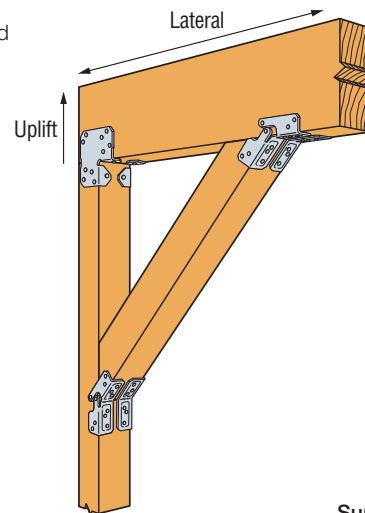
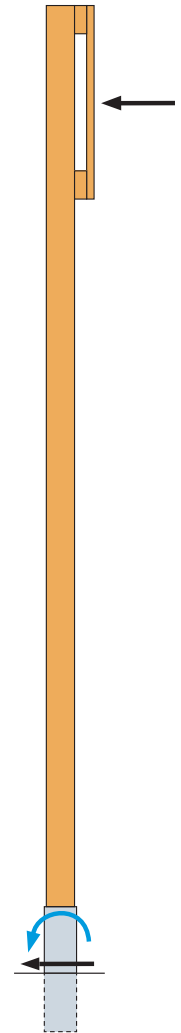

Figure 2 — Typical LCE™ Post Cap Installation with KBS1Z Knee Bracing
Figure 3 — Non-Top-Supported Post with MPBZ™ Moment Post Base
- Except for the MPBZ moment post base, post bases do not provide adequate resistance to prevent members from rotating about the base and are therefore not recommended for non-top-supported installations (such as fences, patio covers, pergolas or unbraced carports). The top of the post must be restrained from moving horizontally by some other means, e.g., by tying the roof into a supporting structure or by adding knee bracing between the posts and beams. (Figure 2) Alternatively, see the MPBZ on pp. 82–83 for a post base that provides moment resistance for columns or posts. (Figure 3)
- Allowable lateral loads for post caps can only be achieved if one of the members, the post or beam, is supported laterally by other means. (Figure 2) For applications involving lateral load transfer from the beam to the column, the column must be designed to receive the load without rotating about its base (e.g., cantilevered out of the ground, diagonally braced, or connected at the base with a moment-resisting connector like the MPBZ post base).